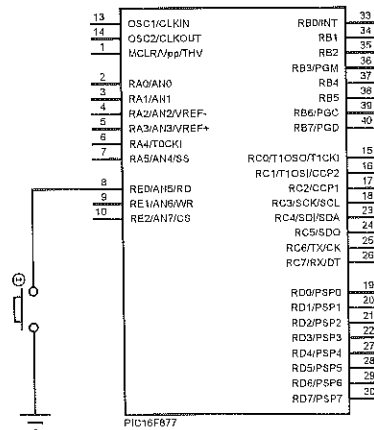

Figure 1: Push button switch connection
- (a) Some EEE612 students were required to interface an LED to pin C0 of the PIC16F877 microcontroller. Assume that the LED forward voltage V_F is 2 V and forward current (continuous) I_F is 20 mA. (2)
- i. Draw a schematic diagram showing the LED connection to PIC16F877 using sinking (or active low) method. (2)
- ii. Draw a schematic diagram showing the LED connection to PIC16F877 using sourcing (or active high) method. (2)
- iii. Determine the size of the LED protection resistor. (2)
- (b) Some EEE612 students were required to interface a push button switch to pin E0 of PIC16F877 such that when pressed, pin E0 becomes logic 'low' otherwise it stays logic 'high'. (2)
- i. Initially it was suggested to interface the push button switch as shown in Fig. 1. Explain why this is not the correct way to interface the switch. (2)